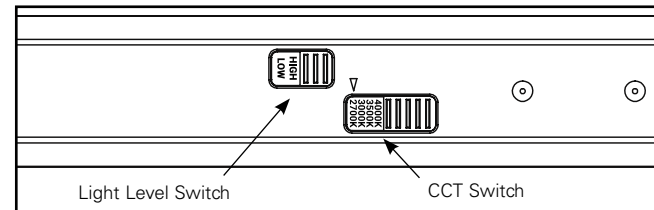

Figure 4
**Note:** Fixtures have field selectable lumen output and field selectable CCT which should be set to specified settings prior to setting in run. (See Figure 4).